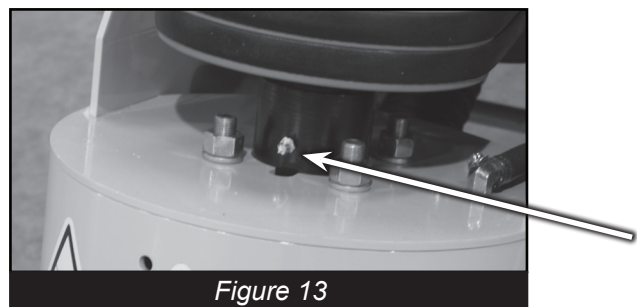

Figure 13
- Bearings (*Figure 13*) must be lubricated weekly with Lubriplate 930-AA High Temp Grease or equivalent.